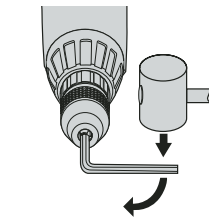
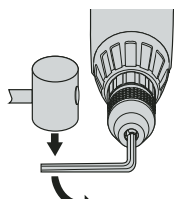

FIG. 4
FIG. 5
2. Place chuck key in chuck as shown in Figure 4.
3. Using a wooden mallet or similar object, strike key sharply in a clockwise direction. This will loosen screw inside chuck (Figure 4).
4. Open chuck jaws fully. Insert screwdriver (or 3/16", 5mm, hex wrench (A) if required) into front of chuck between jaws to engage screw head (B).
6. Place key in chuck as shown in Figure 5.
7. Using a wooden mallet or similar object, strike key sharply in a counterclockwise direction. This will loosen chuck so that it can be unscrewed by hand (Figure 5).